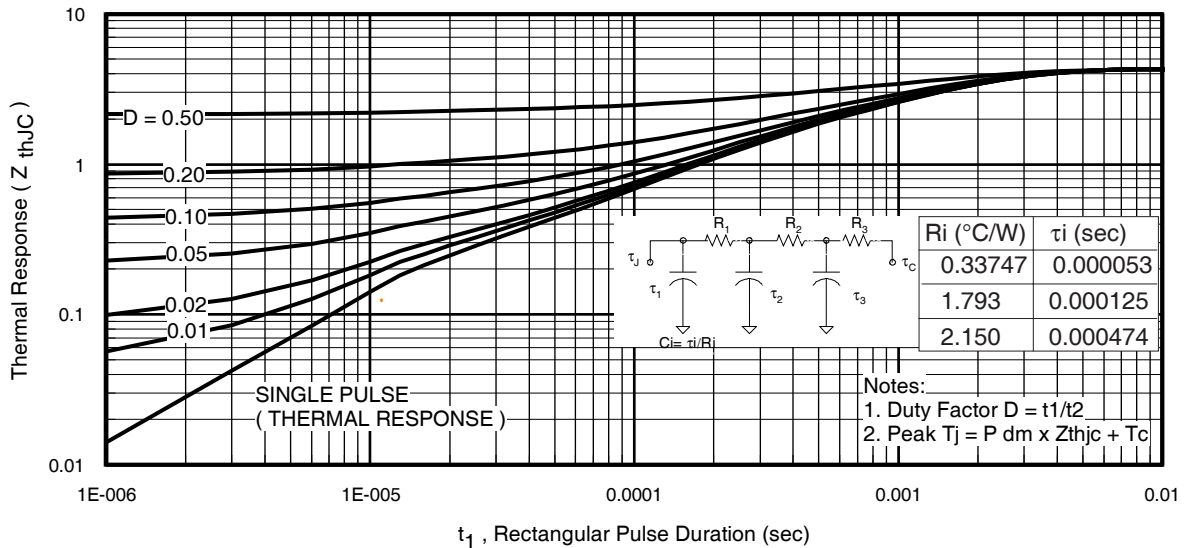

Fig 11. Maximum Effective Transient Thermal Impedance, Junction-to-Case
- ① Repetitive rating; pulse width limited by max. junction temperature. (See fig. 11).
- ② Limited by T_{Jmax} , starting $T_J = 25^\circ\text{C}$, $L = 1.29\text{mH}$
$Z_{thJC}(D, t_{av})$ = Transient thermal resistance, see figure 11)